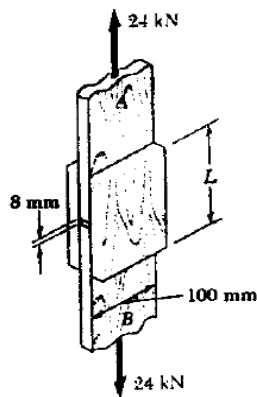

Fig 2
- b. The wooden members A and B are to be joined by plywood splice plates that will be fully glued on the surfaces in contact as shown in Fig 2. As part of the design of the joint, and knowing that the clearance between the ends of the members is to be 8 mm, determine the smallest allowable length L if the average shearing stress in the glue is not to exceed 800 kPa. [7]